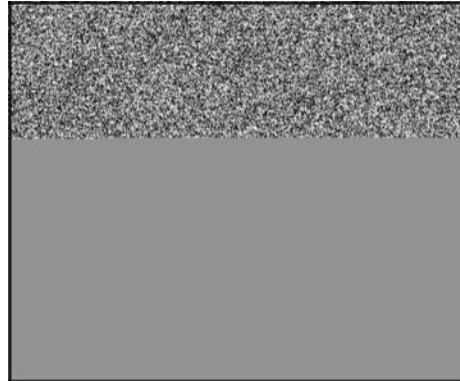

Figure 21
7. Place pump cover on oil pump cavity (Figures 21, 22, 23). Torque screws to values listed in Section 12 - Engine Specifications.